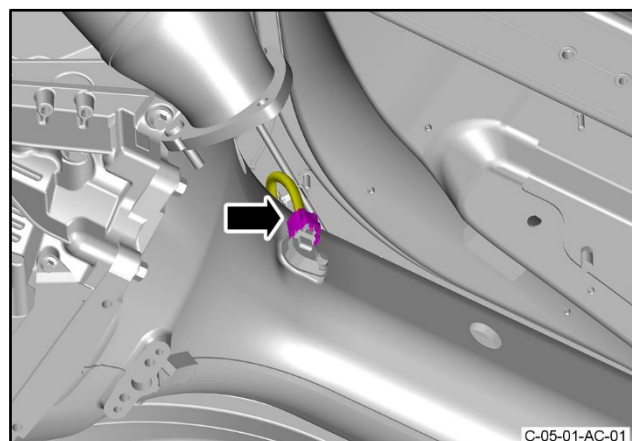

Figure 40
80. Connect the electrical connector to the speed sensor for the propeller shaft (refer to Figure 40).